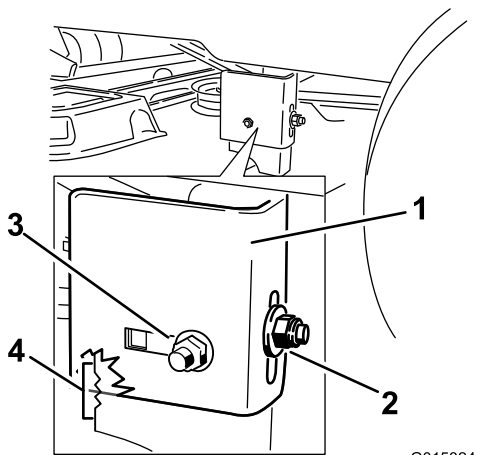

Figure 54
- Loosen the rear locking nut on the hanger bracket just enough to move the bracket (Figure 54).
- Stop the deck at the adjusted position and tighten the rear locking nut on the hanger bracket to hold the new position (Figure 54). Tighten the side locking nut on the hanger bracket.